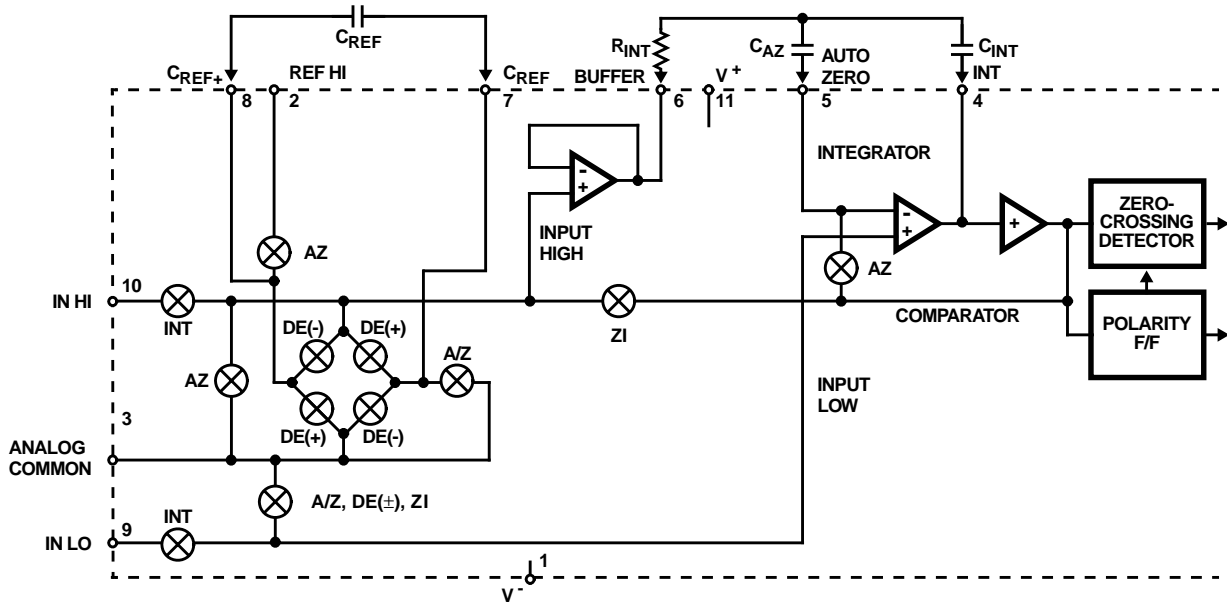

FIGURE 3. ANALOG SECTION OF ICL7135
- Tested in $4^{1/2}$ digit (20,000 count) circuit shown in Figure 3. (Clock frequency 120kHz.)
Figure 3 shows the Block Diagram of the Analog Section for the ICL7135. Each measurement cycle is divided into four phases. They are (1) auto-zero (AZ), (2) signal-integrate (INT), (3) de-integrate (DE) and (4) zero-integrator (ZI).